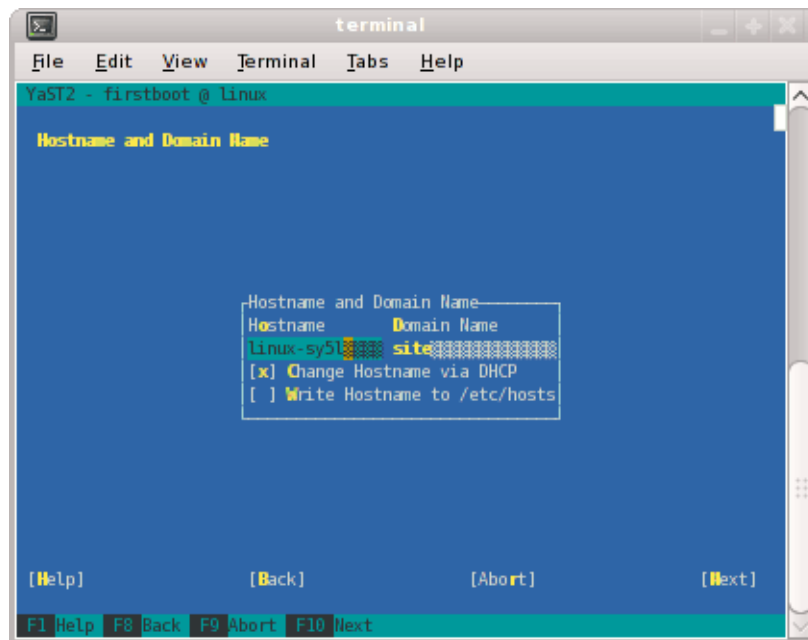

Figure 2-3 Hostname and Domain Name Screen
6. From the **Hostname and Domain Name** screen, as shown in Figure 2-3 on page 38, enter the hostname and domain name of your system in the appropriate fields. Make sure that **Change Hostname via DHCP** is **not** selected (no **x** should appear in the box). Note that the hostname is saved to `/etc/hosts` in step 10, below. Click the **Next** button to continue.